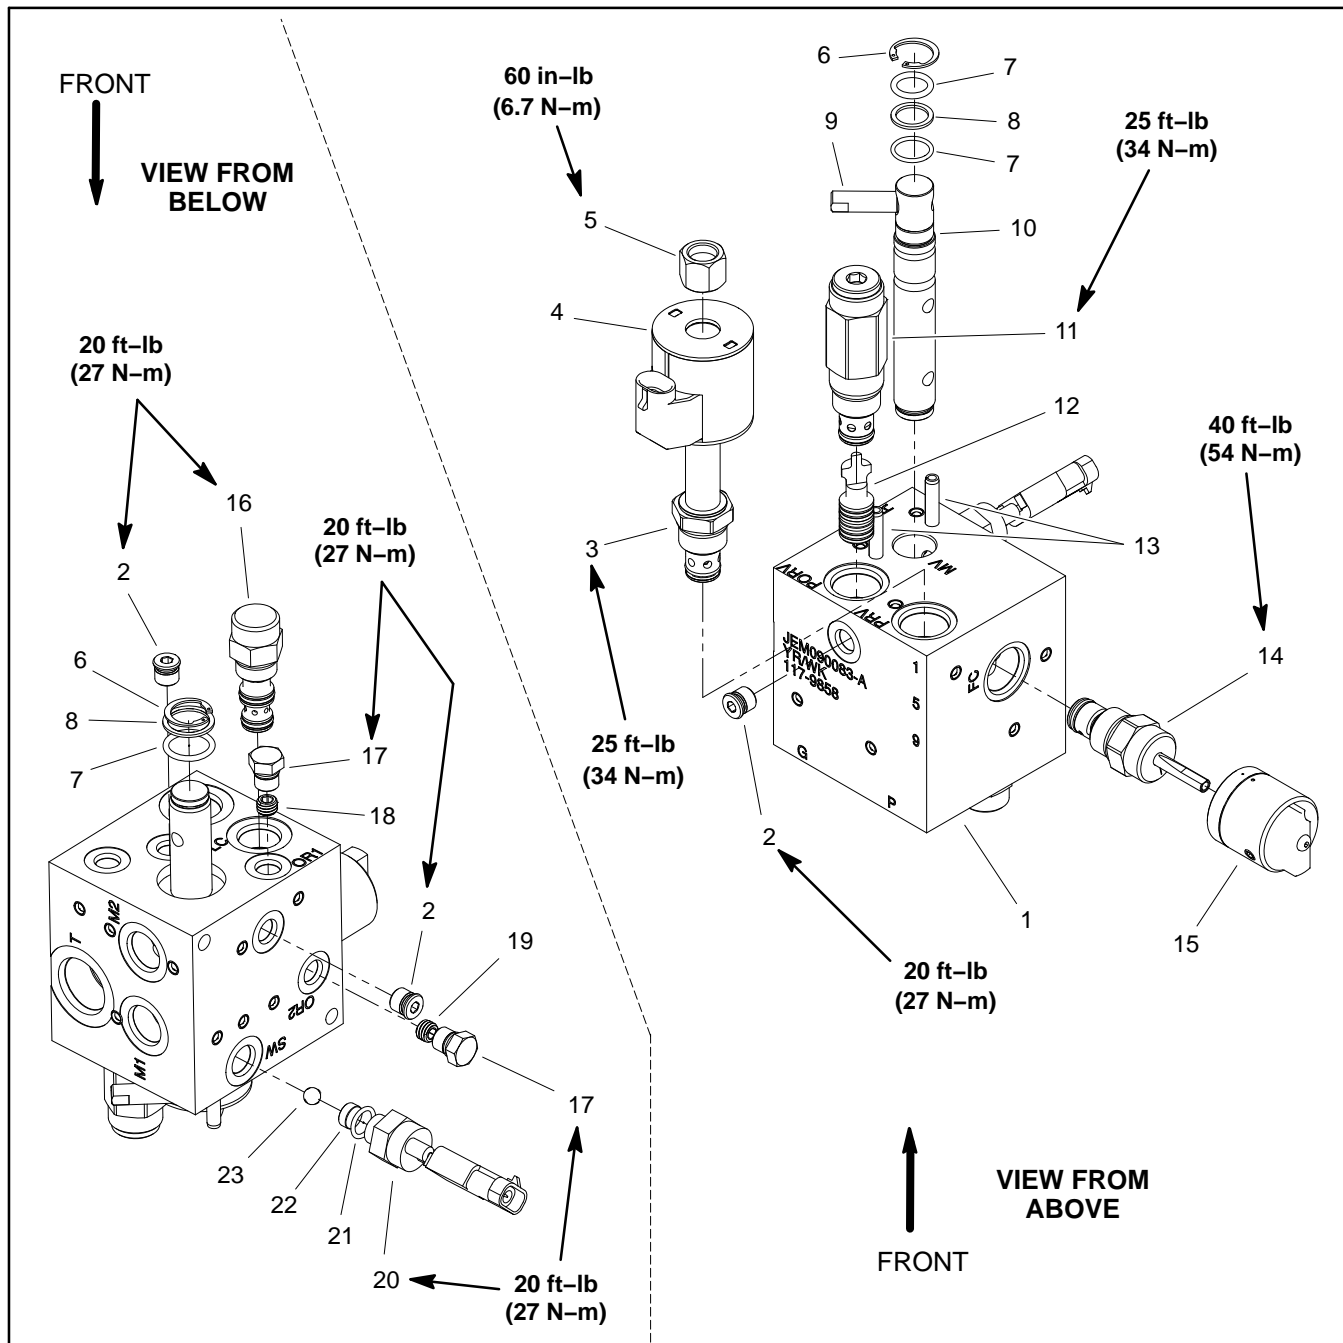

Figure 65
**NOTE:** The hydraulic manifold shown in Figure 65 uses several zero leak plugs. These plugs have a tapered sealing surface on the plug head that is designed to resist vibration induced plug loosening. The zero leak plugs also have an O-ring to provide a secondary seal. If zero leak plug removal is necessary, lightly rap the plug head using a punch and hammer before using an allen wrench to remove the plug; the impact will allow plug removal with less chance of damage to the socket head of the plug. When installing plugs into the manifold, torque plugs to the values identified in Figure 65.
**IMPORTANT:** A flow control orifice (items 18 and 19) is located beneath the plugs in mow manifold ports OR1 and OR2. If either of these plugs is removed from the manifold, make sure to remove orifice and label its position for assembly purposes. When installing the orifice in the manifold, make sure that the orifice is flat in the base of the port. Manifold damage is possible if the orifice is cocked in the port.
For cartridge valve service procedures, see Control Manifold Cartridge Valve Service in this section. Refer to Figure 65 for mow manifold cartridge valve and plug installation torque.
- A. Remove backlap switch from manifold before removing mow/backlap spool (Fig. 65). Remove shim and ball from manifold port after switch is removed. Remove and discard O-ring from switch.